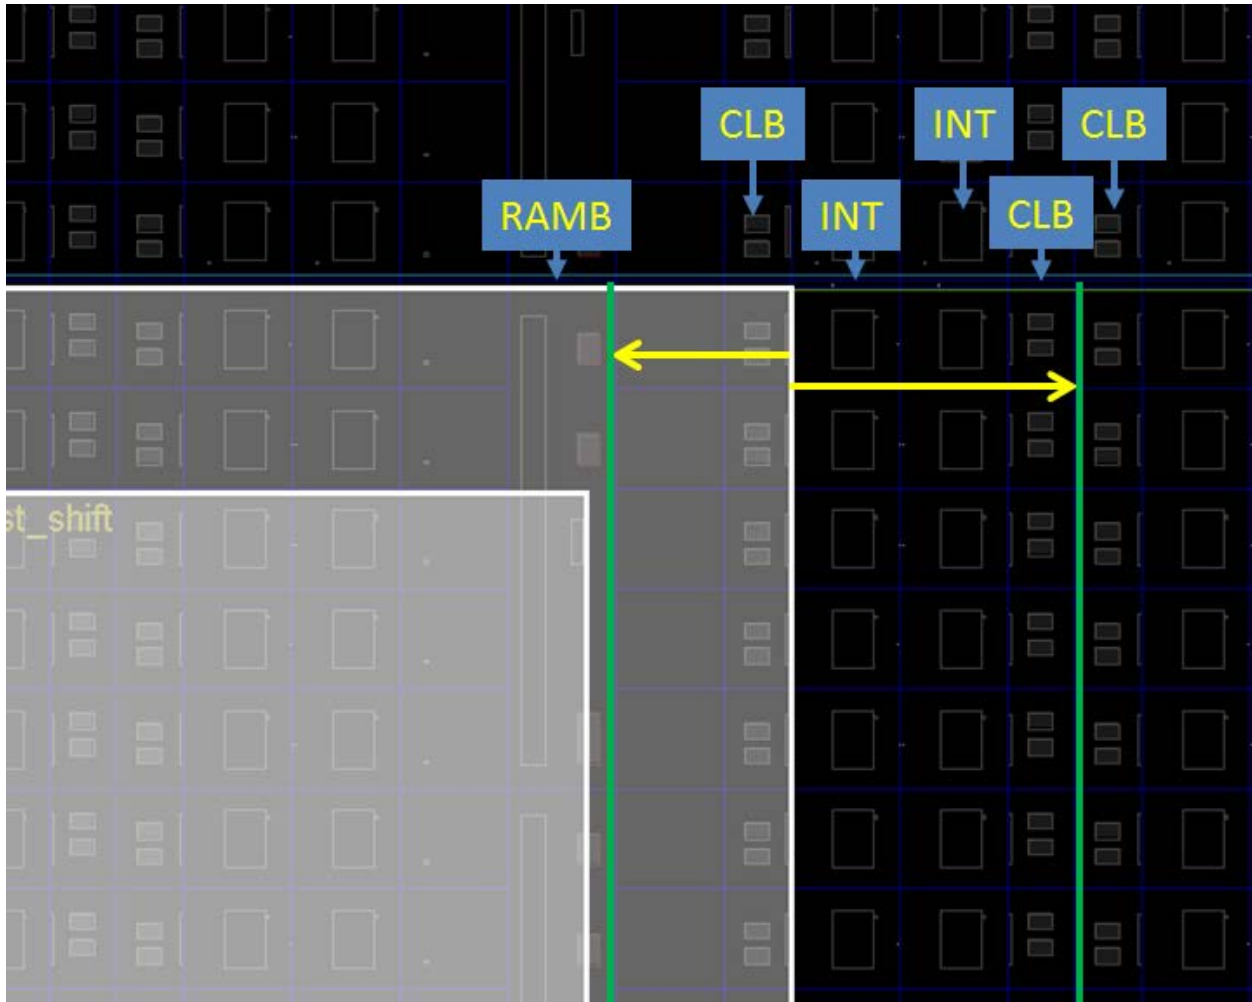

Figure 5: Adjusting the Edges of a Reconfigurable Pblock
- To manually avoid this DRC warning, zoom into the upper or lower corner on the reported edge of inst_shift (or inst_count, if inst_shift did not report an issue) to see where the violation has occurred. Move this edge left or right one column, as shown by the yellow arrows in Figure 5, so it lands between two resource types (CLB-CLB or CLB-RAMB, for example) instead landing between CLB-INT or BRAM-INT.